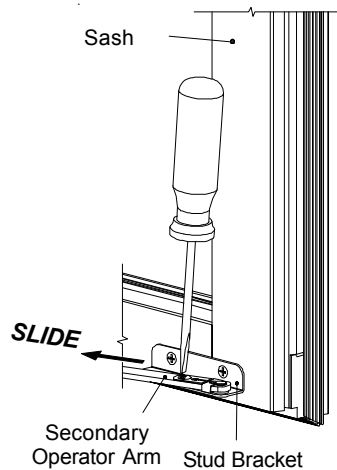

FIGURE 1
3. Release the stud clip on the secondary operator arm. See figure 1.